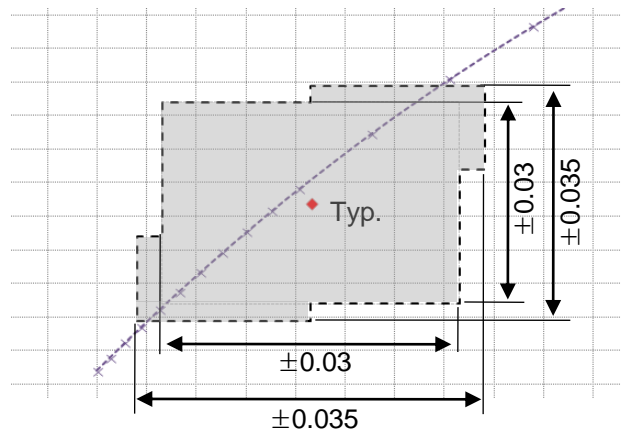

FIG. 2 Tolerance of White color coordinates
7. White color coordinates tolerance is 0.035, In the case of more than Wx typical target and Wy typical target + 0.01, in the case of less than Wx typical target and Wy typical target - 0.01, in the remaining area is 0.03, see the FIG. 2.